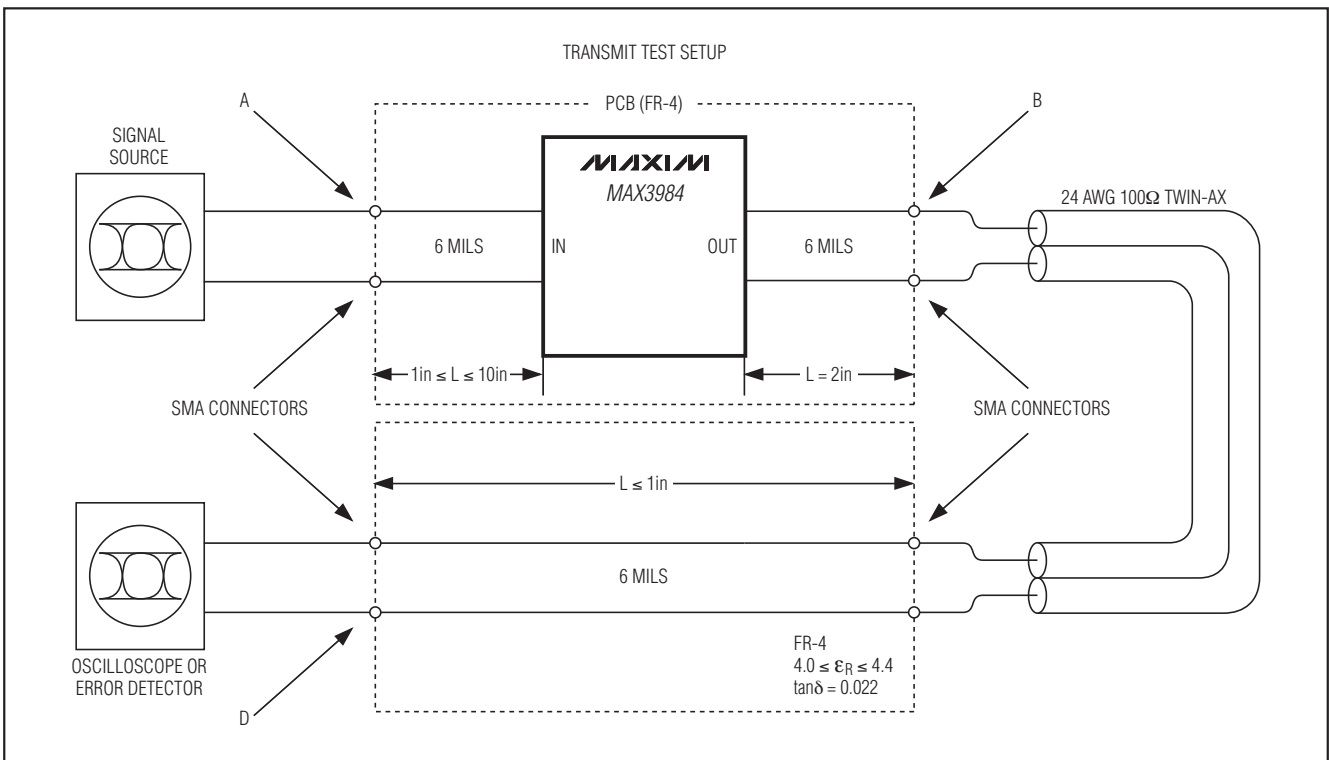

図2. 伝送試験装置(A、B、およびDの各点はACパラメータの試験条件の参照記号。確定的ジッタとアイダイアグラムは点Dで測定)
**Note 9:** Input range selection is IN\_LEV = logic-high for FR-4 input equalization. Cables are unequalized, Amphenol Spectra-Strip (160-2499-997) 24 AWG or equivalent. Residual deterministic jitter is the difference between the source jitter at point A and the load jitter point D in Figure 2. The deterministic jitter (DJ) at the output of the transmission line must be from media induced loss and not from clock source modulation. DJ is measured at point D of Figure 2.